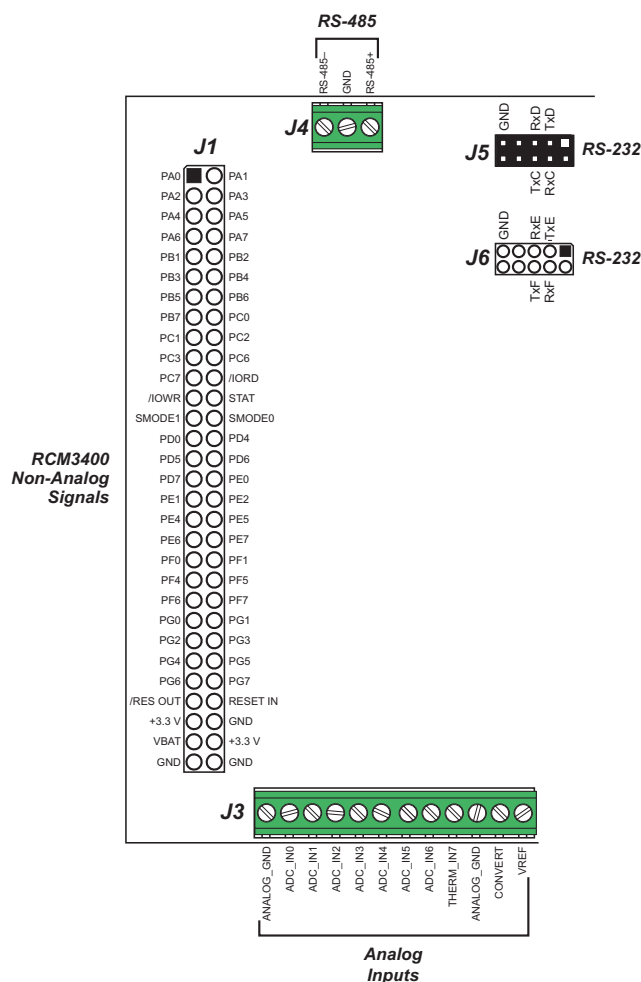

Figure B-4. Prototyping Board Pinout
- **Module Extension Headers**—The complete non-analog pin set of the RCM3400 module is duplicated at header J1. Developers can solder wires directly into the appropriate holes, or, for more flexible development, a 2 × 30 header strip with a 0.1" pitch can be soldered into place. See Figure B-4 for the header pinouts.
- **Analog Inputs Screw-Terminal Header**—The complete analog pin set of the RCM3400 module is duplicated at screw-terminal header J3. See Figure B-4 for the header pinouts.
The Prototyping Board provides the user with RCM3400 connection points brought out conveniently to labeled points at header J1 and J3 on the Prototyping Board. Although header J1 is unstuffed, a 2×30 header is included in the bag of parts. RS-485 signals are available on header J4, and RS-232 signals are available on header J5 (Serial Ports C and D) and header J6 (Serial Ports E and F). A header strip at J5 allows you to connect a ribbon cable, and a 2×5 header is included in the bag of parts for optional installation at J6. The pinouts for these locations are shown in Figure B-4.